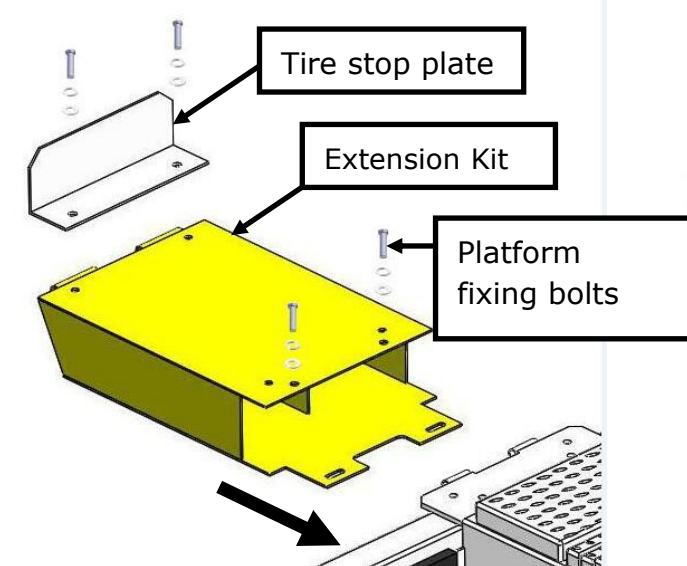
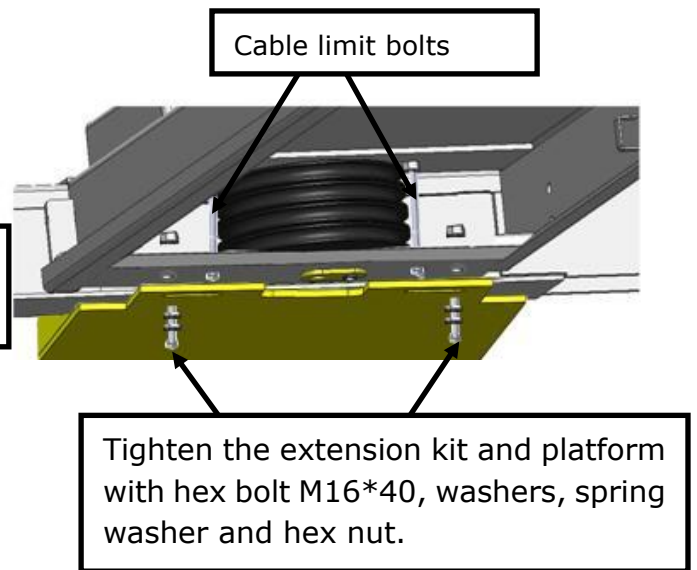

Fig.55
Fig.56
2.Put the extension kits into the platform, then tighten with the bolts. (see Fig.55, Fig.56)